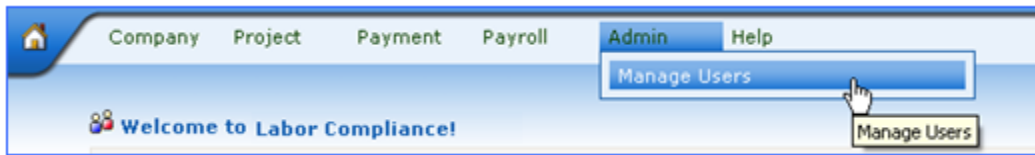

Figure 17 –Manage Employees Menu Screen
1. From the Admin menu, select “Manage Users” (Figure 17).
1. From the Admin menu bar at the top of the screen, click "Manage Users" (Figure 17).